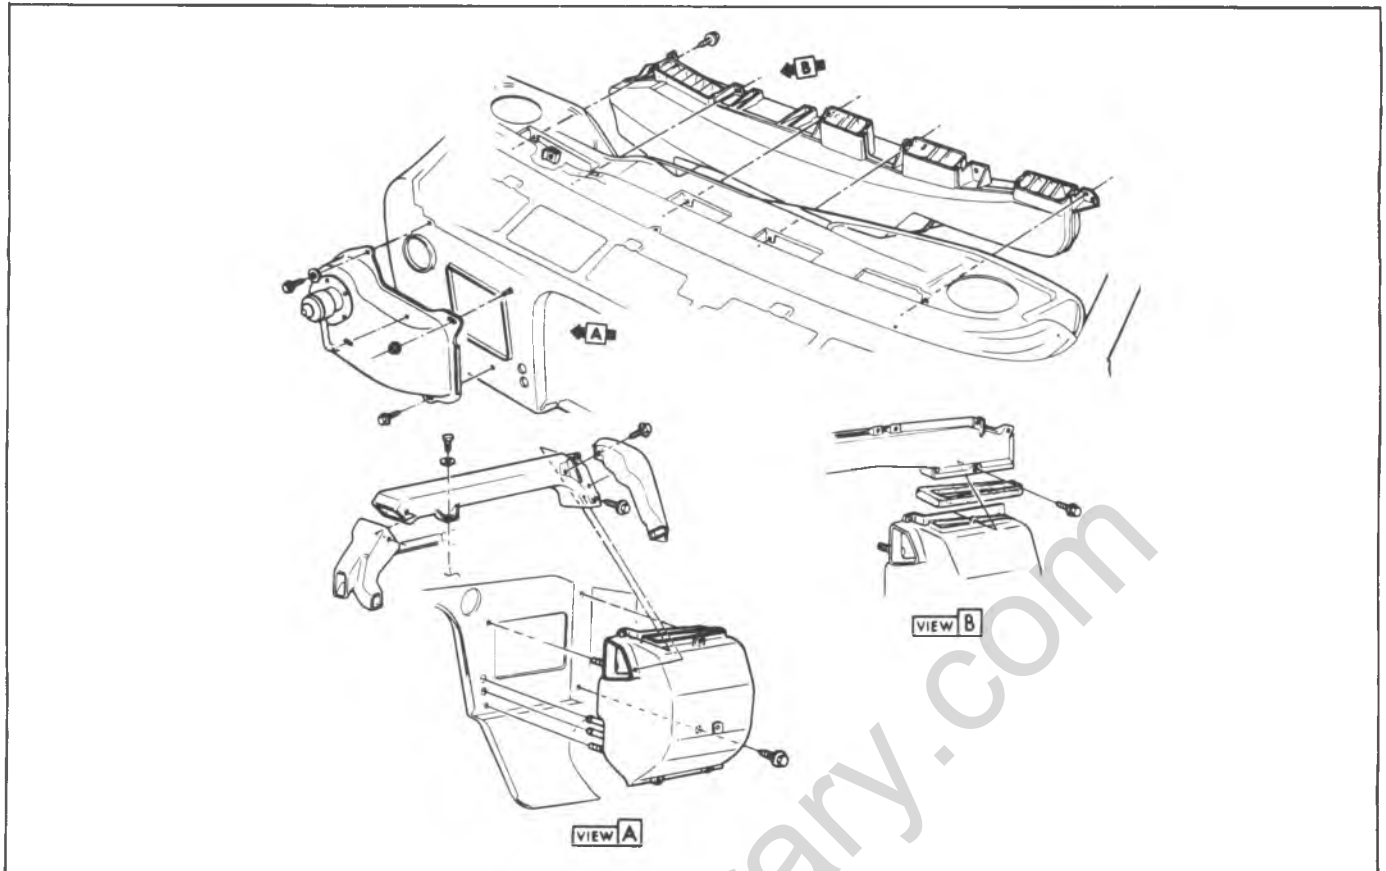

Fig. 1B-43--Heater Distributor Duct-G Series
7. Remove recirculating air door vacuum actuator. See Figure 1B-44.
9. Remove heater distributor duct. (Figure 1B-45).
12. Remove three (3) nuts from bolts attaching heater core case to dash panel and one (1) screw at lower right corner (inside).
14. Remove gasket (Fig. 1B-46) to expose screws attaching case sections together.